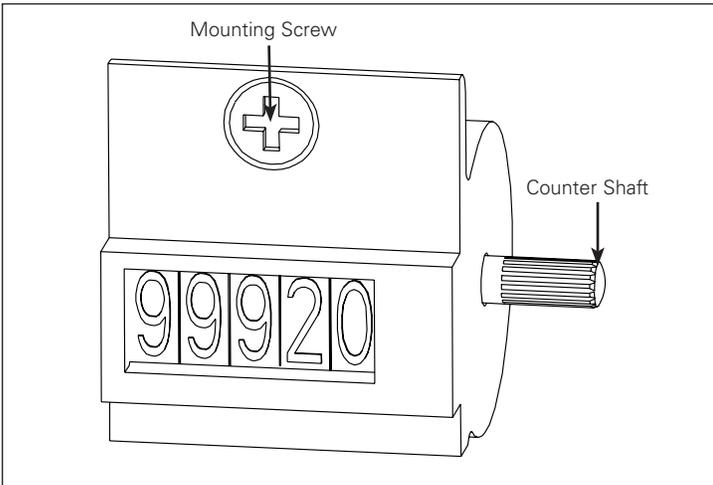

Figure 2. Counter with Mounting Screw
- Counter with mounting screw (M3 x 5) (**Figure 2**)